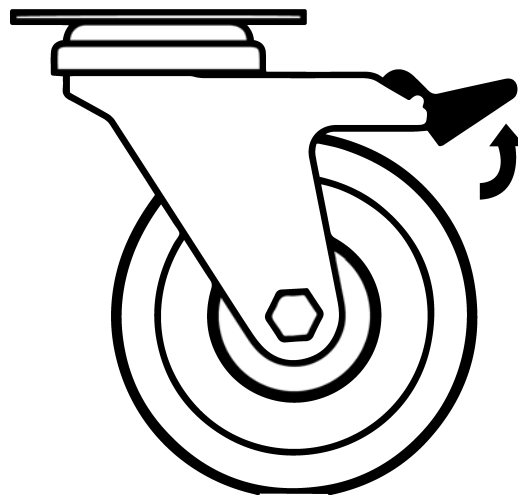

Fig 2. Castor Unlocked
- Ensure when placing the laboratory oven into place that the castors can be accessed so they can be locked (**Fig 3**) and unlocked (**Fig 2**). Please contact your supplier or Thermoline should there be any damage to the castors.